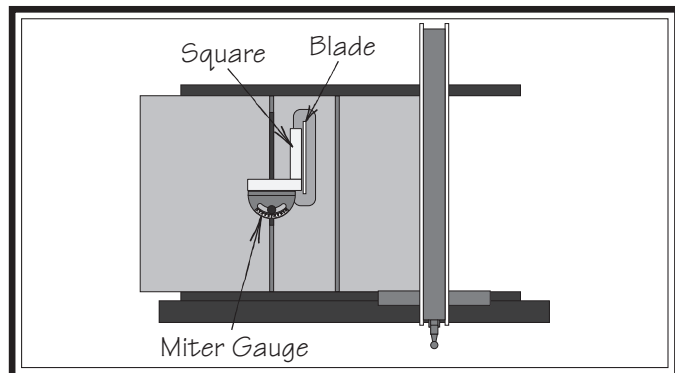

Figure 140. Checking 90° stop on miter gauge.
3. Place 90° square evenly against face of miter gauge and blade, as shown in **Figure 140**.